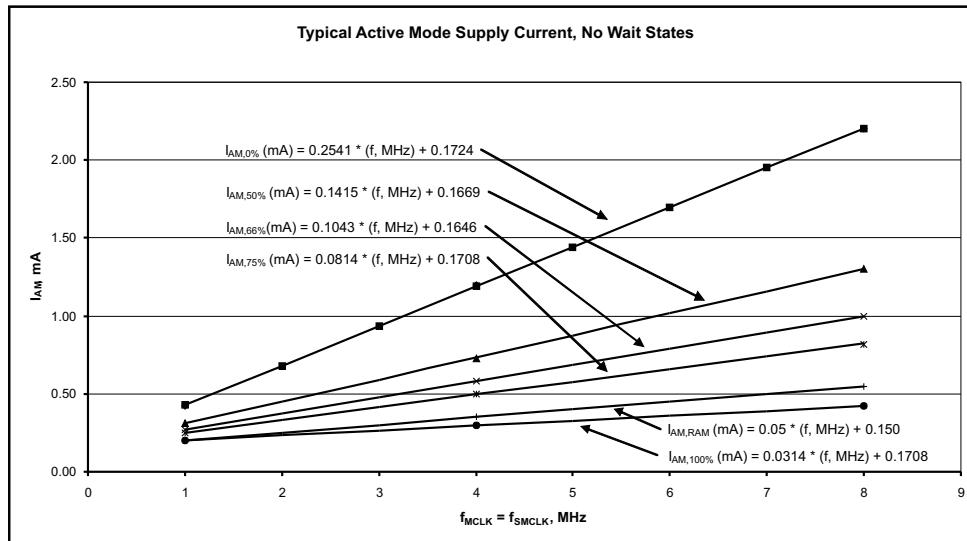

Figure 2. Typical Active Mode Supply Currents, No Wait States
- (8) See Figure 2 for typical curves. Each characteristic equation shown in the graph is computed using the least squares method for best linear fit using the typical data shown in Active Mode Supply Current Into \$V_{CC}\$ Excluding External Current.